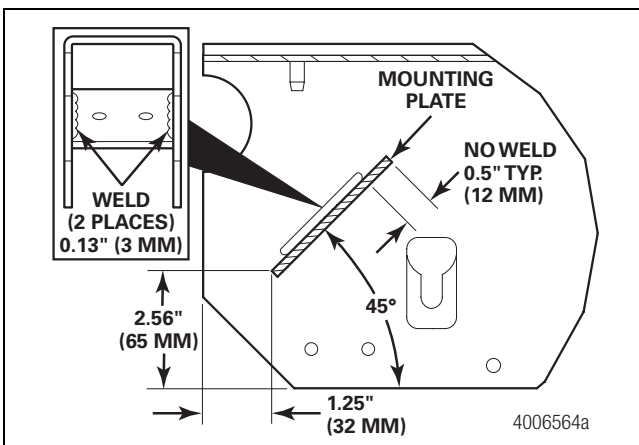
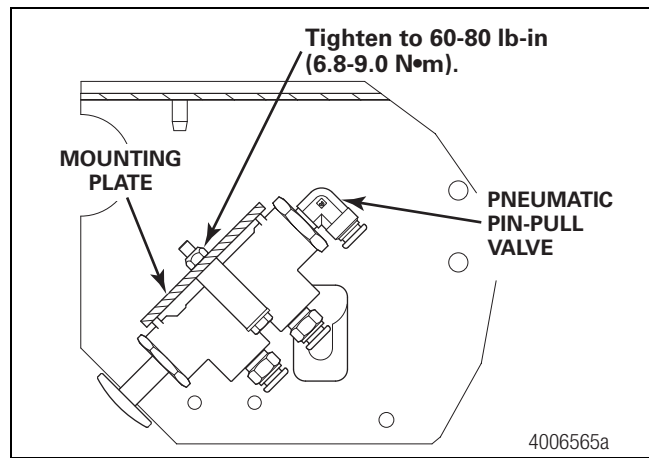

Figure 4
Figure 5
6. Locate and weld the valve mounting plate inside the roadside rail at the slider front. Figure 4. Use two mounting bolts to attach the pneumatic pin-pull valve to the valve plate. Figure 5.